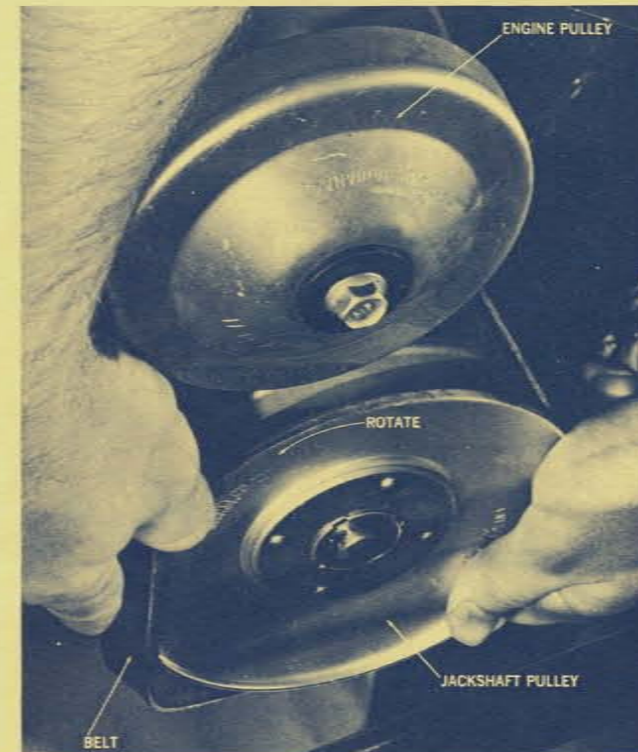

Figure 6
3. Work belt off of large (jackshaft) pulley by rotating jackshaft pulley and remove from small (engine) pulley. (See Fig. 6).